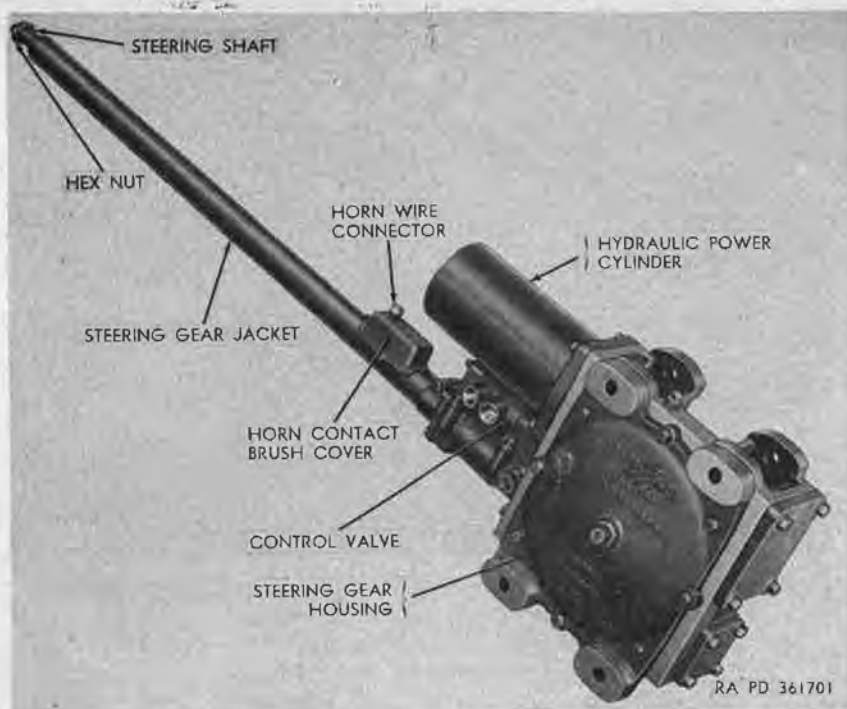
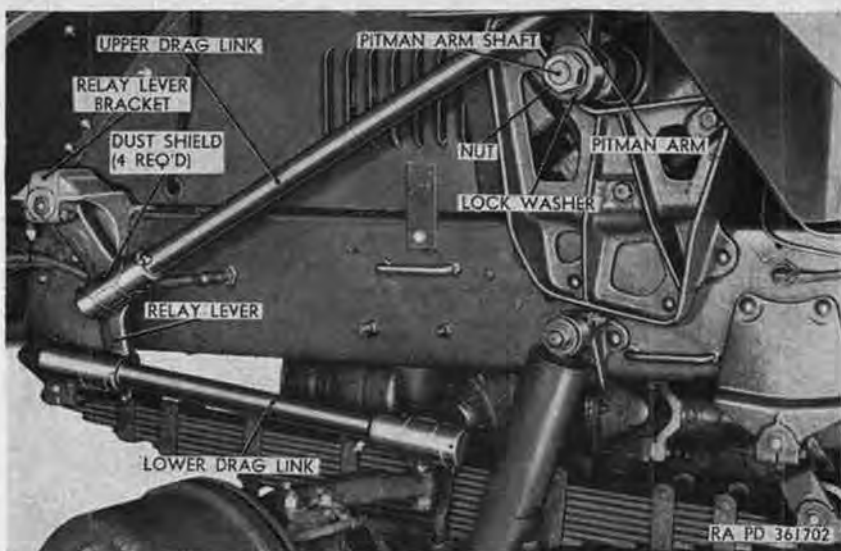
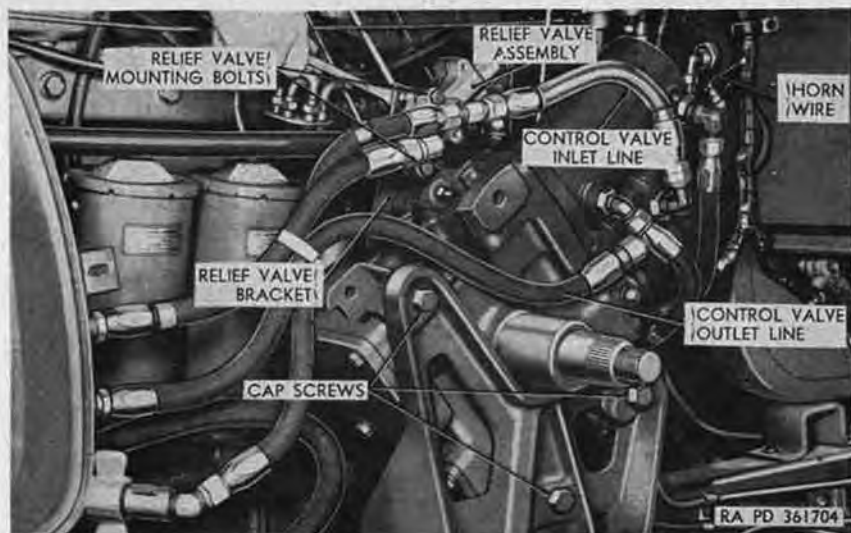
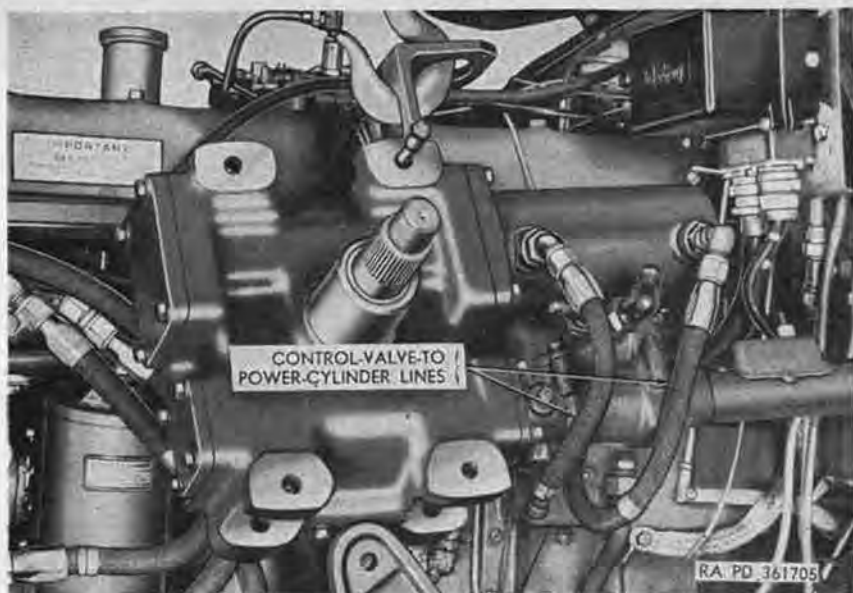

Figure 260. Right side view of steering gear removed from vehicle.
Figure 261. Steering linkage installed on vehicle under left front fender.
Figure 263. View of steering gear installed with left front fender removed.
Figure 266. Removing steering gear.
- (1) *General.* The steering system is comprised of the steering wheel (P, fig. 65), hydraulically-assisted steering gear (fig. 260), hydraulic oil reservoir (F, fig. 148), hydraulic pump (fig. 130), relief valve, and steering linkage.
- (2) *Steering wheel.* The three-spoke steering wheel (P, fig. 65) is mounted on the upper end of the steering shaft (fig. 260) and secured by a hex nut. The horn button assembly (W, fig. 65) is mounted in the center of the steering wheel.
- (3) *Steering gear (fig. 260).* The steering gear is a cam-and-lever-type unit equipped with a hydraulic power cylinder. A lever inside the steering gear housing is actuated by rotation of a cam at the lower end of the steering shaft, which turns with the steering wheel. This causes the upper end of the pitman-arm (fig. 261), which is secured to the opposite end of the lever shaft, to move either forward or backward, according to the direction of rotation of the steering wheel. The movement of the pitman-arm is transmitted through the steering linkage (fig. 261) to the steering knuckles and wheels, steering the vehicle. Rotation of the steering shaft also
- (6) *Relief valve.* The relief valve (fig. 263), mounted on a bracket bolted to the steering gear housing, prevents excessive
- (7) *Steering linkage.* The steering linkage (fig. 261) consists of the upper drag link, relay lever, and lower drag link. Adjustable spring-loaded ball seats at both ends of each drag link (fig. 261) engage ball studs attached to the pitman-arm, relay lever, and steering arm. The relay lever (fig. 261) consists of a lever with two ball studs to which the forward ends of the upper and lower drag links are secured.
- (2) Remove hex nut (fig. 260) securing steering wheel to upper end of steering shaft.
- (1) Position steering wheel (P, fig. 65) on upper end of steering shaft (fig. 260) with splines on end of shaft engaging splines in bore of steering wheel hub.
- (2) Install hex nut (fig. 260) on steering shaft and tighten.
- (3) Install horn button assembly (par. 180).
c. Pitman-Arm Removal (fig. 261).
- (1) Remove nut and lockwasher (fig. 261) securing pitman arm to left end of pitman-arm shaft.
- (2) Pull pitman arm from shaft.
- (3) Disconnect rear end of upper drag link (fig. 261) from pitman-arm ball stud (par. 249).
d. Pitman-Arm Installation (fig. 261).
- (1) Connect rear end of upper drag link to pitman-arm ball stud (par. 249).
- (2) Set front wheels in straightahead position, and set steering wheel in the midposition (*b*(1)(*d*) above).
- (3) Position pitman arm on splined shaft with arm pointing upward.
- (4) Push pitman arm onto shaft until nut can be installed on threaded end of shaft. Install lockwasher and nut on shaft and tighten.
- (4) Remove left front fender assembly (par. 321).
- (5) Remove pitman arm (*c* above).
- (6) Remove relief valve (par. 248*b*).
- (7) Disconnect inlet and outlet lines (fig. 263) at left side of control valve.
- (8) Disconnect horn wire (fig. 263) at terminal on top of horn-contact-brush cover (fig. 260).
- (9) Remove three safety nuts and cap screws (fig. 263) securing steering gear to steering gear bracket, and remove steering gear from vehicle (fig. 266).
- (10) Remove split-lockwasher screw, spacer, cap screw, washer, and safety nut securing relief-valve mounting bracket (fig. 263) to steering gear housing, and remove bracket from housing.
- (11) Disconnect both ends of two control-valve-to-power-cylinder lines (fig. 266), and remove lines from steering gear.
- (12) Remove six elbows from control valve and power cylinder inlet and outlet ports.
- (1) Install six elbows in inlet and outlet ports of control valve (fig. 260) and power cylinder.
- (2) Position two control-valve-to-power-cylinder lines (fig. 266) at inlet-and-outlet-port elbows on control valve and power cylinder, and tighten connectors.
- (3) Position relief-valve mounting bracket (fig. 263) on right side of steering gear housing, install split-lockwasher screw, spacer, cap screw, washer, and safety nut, and tighten.